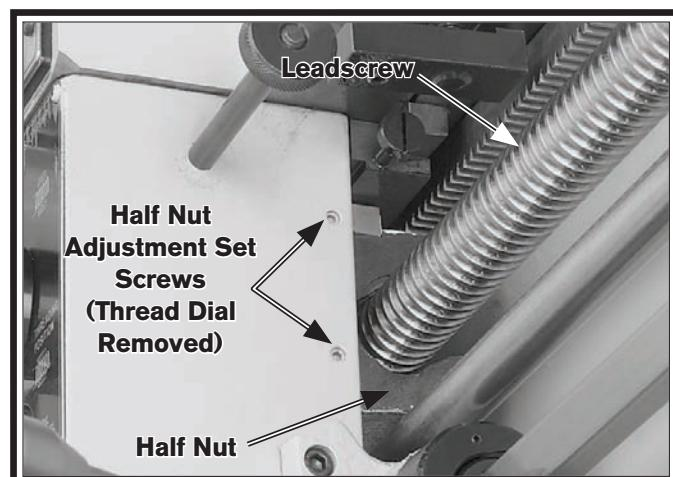

Figure 132. Half nut gib adjustment.
3. Turn the two half-nut adjustment set screws, shown in **Figure 132**, clockwise about an  $\frac{1}{8}$ th of a turn.